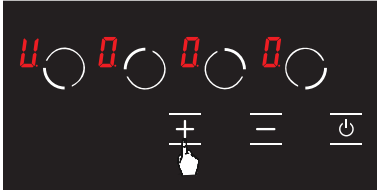

Figure 10
3. Then, press the **+** key once. The **H** icon shall be displayed in the relevant hob with this touch. (see Fig. 10) Thus, the keep warm shall be activated.